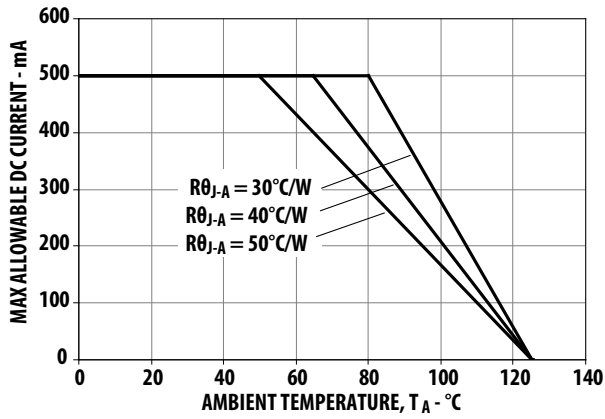

Figure 10. Maximum Forward Current vs. Ambient Temperature. Derated based on TJMAX = 125 °C, RθJ-A = 30 °C/W, 40 °C/W and 50 °C/W
1. Derate linearly based on Figure 10 for AllInGaP and Figure 22 for InGaN.